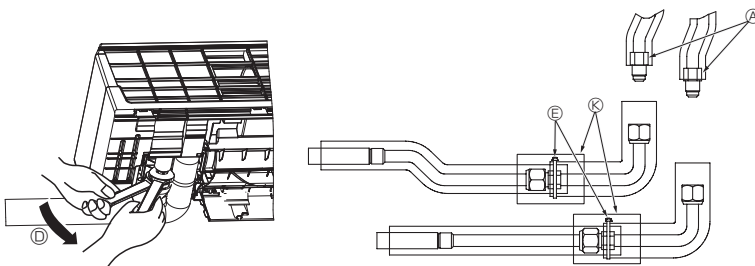

Fig. 3-10
- (5) Direct the L-shaped connector toward the exiting direction of the piping and tighten it with two wrenches. (Fig. 3-10)